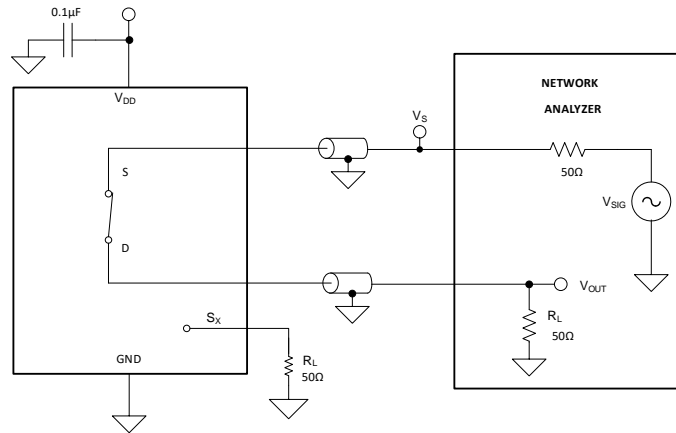

图 15. Bandwidth Measurement Setup
Bandwidth is defined as the range of frequencies that are attenuated by less than 3 dB when the input is applied to the source pin (Sx) of an on-channel, and the output is measured at the drain pin (D) of the device. 图 15 shows the setup used to measure bandwidth.